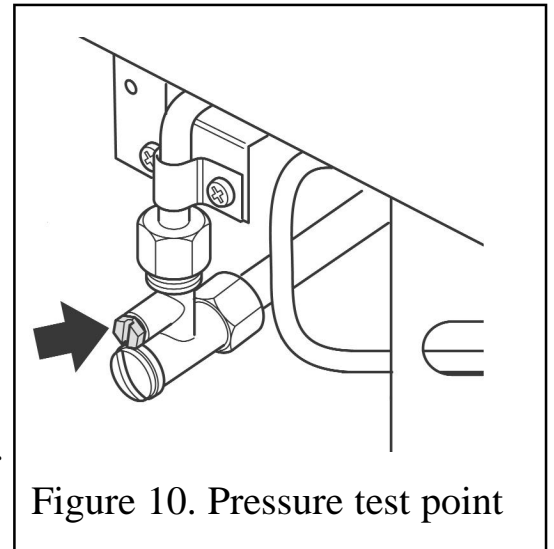

Figure 10. Pressure test point
1. Check the inlet pressure by fitting a pressure gauge at the test point. The test point is on the inlet 'T' connector (See figure 10). Check the pressure with the appliance alight and set at maximum output.